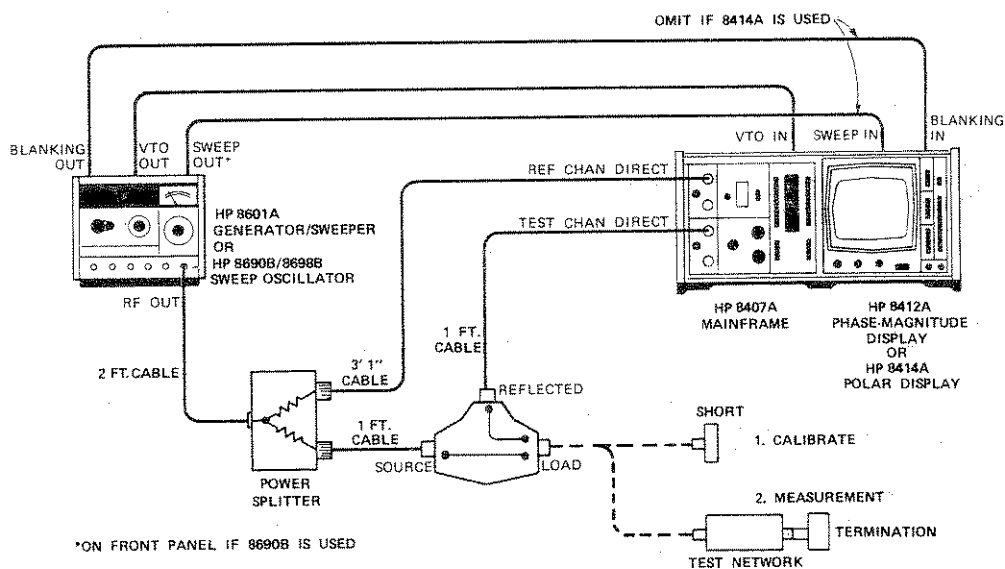

Figure 5. Basic Setup for Reflection Measurements
a. The HP 11652A is used as shown in Figure 5 when measuring complex impedance, reflection coefficient or return loss (VSWR).
1. Setup the equipment as shown in Figure 5.
Be sure the HP 8721A Directional Bridge is being used as a reverse coupler, not as a forward coupler during a reflection measurement (see Figure 5). This ensures that only the reflected signal will enter the test channel ( $E_{REFLECTED}$ ).